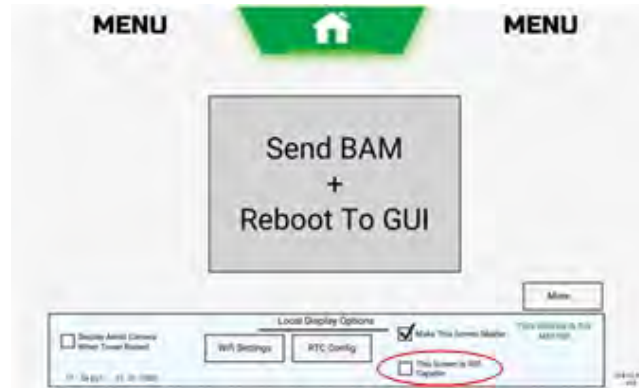

Figure 101. MENU Screen
- E. At top center of screen, touch  icon. (MENU screen is displayed, see Figure 101.)